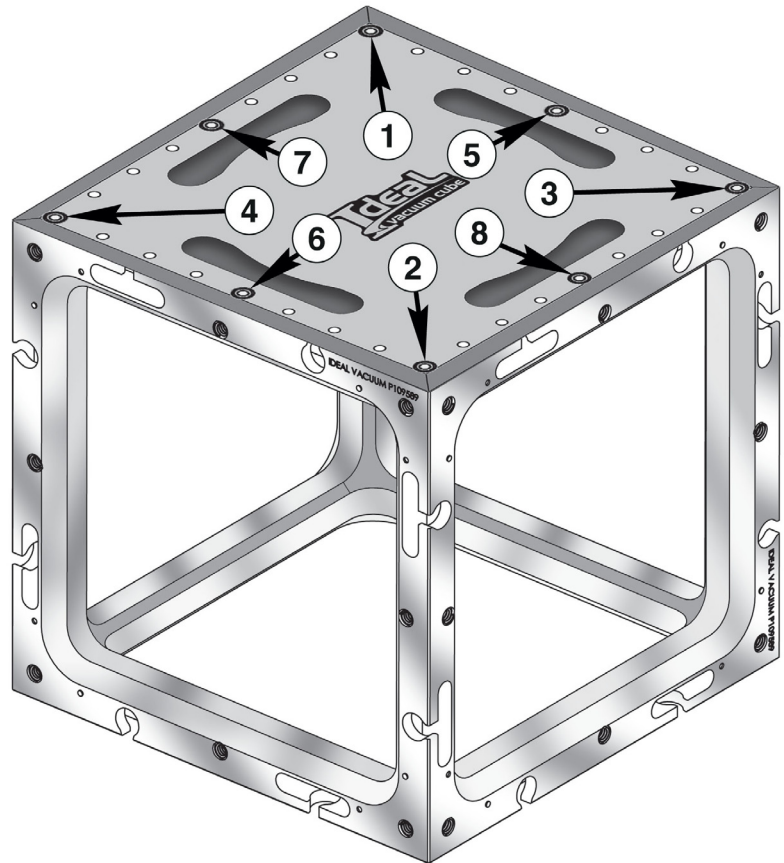
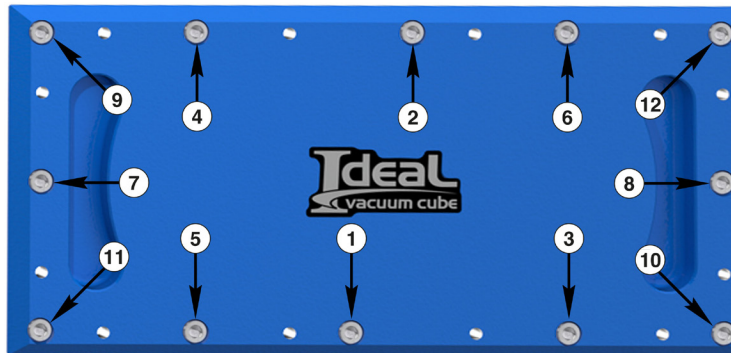

Figure 3 - Bolt loosening order (6x6 and 9x9 plates)
Figure 9 - 6x12 bolt tightening pattern
- Figure 3 - Bolt loosening order (6x6 and 9x9 plates)6
- Figure 9 - 6x12 bolt tightening pattern9
Figure 3 shows the loosening bolt order for 6x6 and 9x9 plates. Reverse the order in Figures 9 and 10 for 6x12 and 12x12 plates.